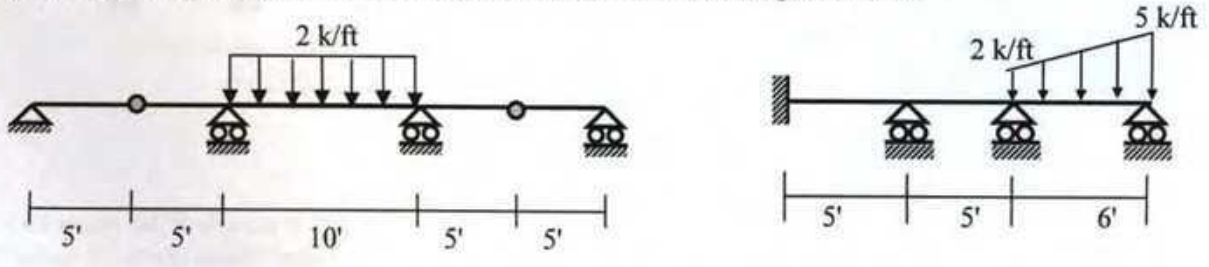

Fig.9
10. For the beams shown in Fig.9